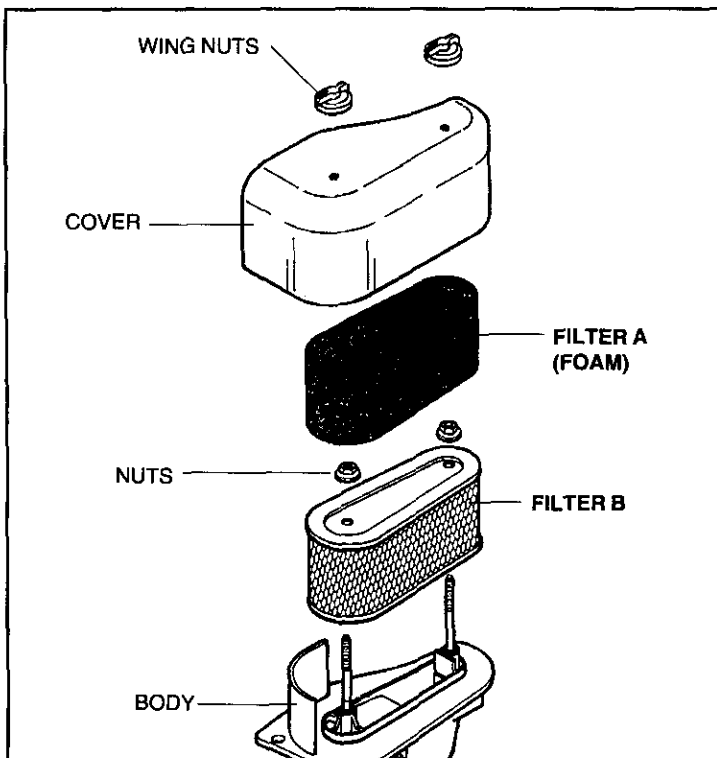

Figure 3
A. TO SERVICE FILTER(S) (see Figure 3):